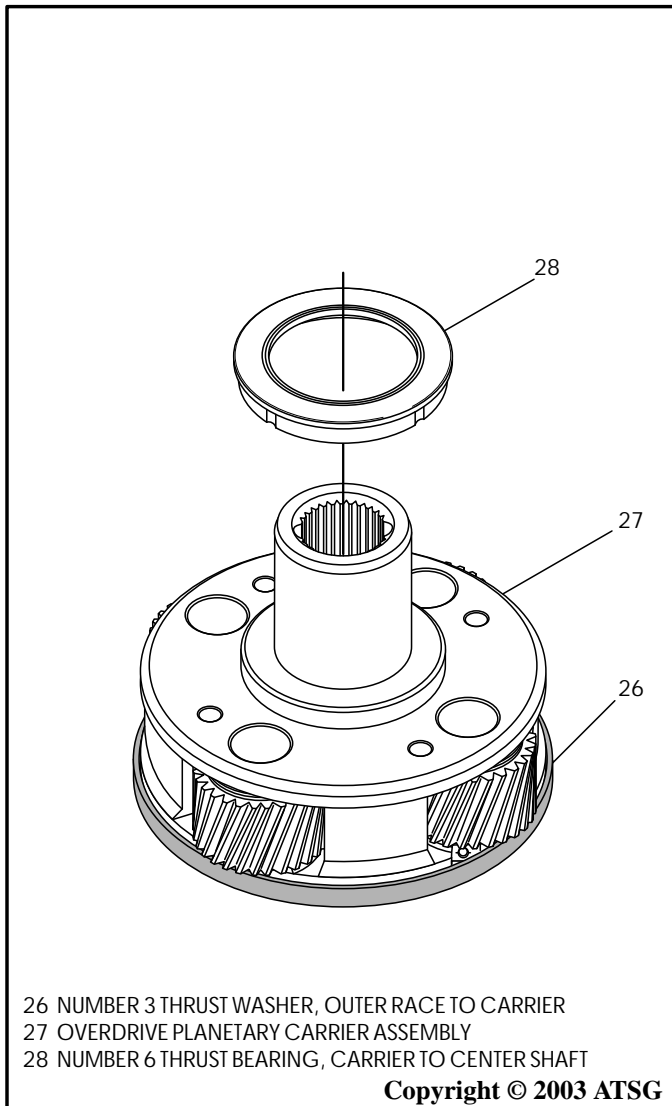

Figure 144
8. Flip the overdrive planetary carrier over with the number 3 thrust washer installed, as shown in Figure 144.
9. Install the number 6 thrust bearing onto the overdrive planetary carrier in the direction shown in Figure 144.